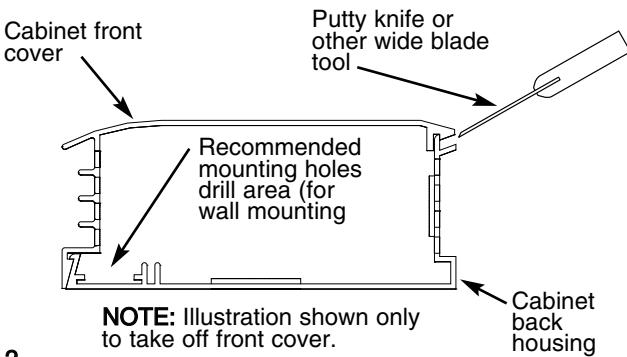

Fig. 2
16. To avoid damaging heater, do not use a screw driver to separate front cover from back housing. Use only a putty knife as shown, see Fig. 2
2. Remove front cover by laying the heater on its back and inserting a putty knife (or other thin, wide blade tool, 1" [25mm] wide minimum) approximately 6" (152mm) from the end of the heater and prying up as shown in Fig. 2. This will spring the snap lock closure open. Repeat as required down the length of the heater until the front cover completely disengages from the heater back.
4. Drill the required size mounting holes in the heater housing (See Fig. 2 for recommended mounting hole location.)
5. Drill the required size mounting holes in all the heater housings. (See Fig. 2 for recommended mounting hole location.)